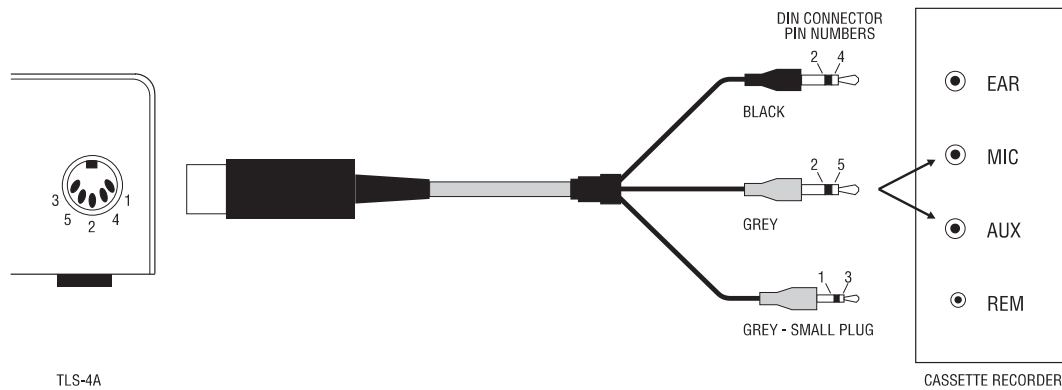

Figure 2 Audio Port Connector Cable
- Using a standard cassette player cable (*not supplied*) with a 5-pin DIN connector at one end and three connectors at the other (refer to Figure 2).
- Using a standard cassette player cable (not supplied) with a 5-pin DIN connector at one end and three connectors at the other (refer to Figure 2).
Note: Cable colors will vary depending on manufacturer. See Figure 2.